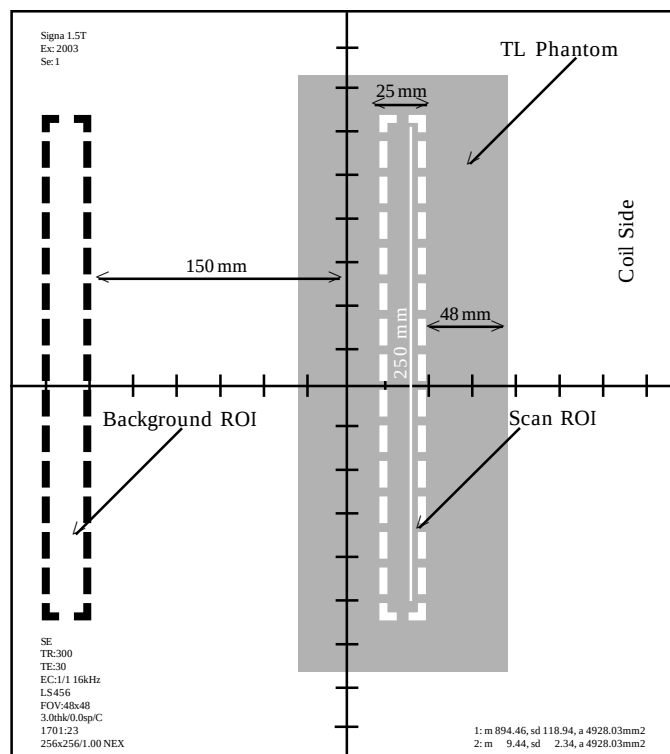

Figure 6: SNR measurement for bottom three coils (coil mode USLS456).
- Select [Scan]. Scan the TL phantom with the bottom three coils (coil mode USLS456) with landmark at the 57cm mark on the scale. Observe the resulting image of the phantom which should be similar to *Figure 6*. Check to see that there are no artifacts in the image. This image will be used for determination of the SNR of the bottom three coils.
- SNR Measurement of Bottom Three Coils -- Repeat previous steps with the phantom image (see Figure 6) obtained from the bottom three coils (coil mode USLS456). The measured SNR should be greater than 200 (for 1.5T) and 155 (for 1.0T).